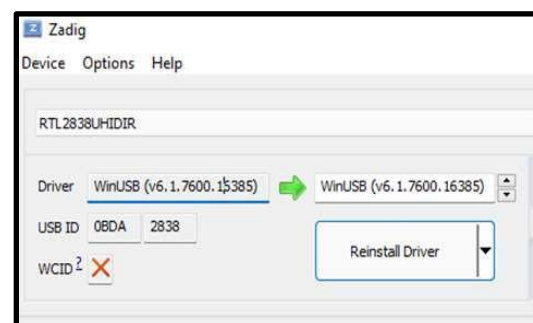

Figure 7 Correct configuration for driver selection.
Do **NOT** select “Bulk-In, Interface (Interface 0)”, “Bulk-In, Interface (Interface 1)” or “USB Receiver (Interface 0)” (Figure 7)
15. Ensure that WinUSB is selected in the box next to where it says driver (Figure 7).